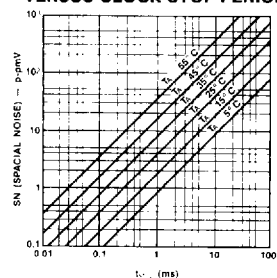

Fig. 5
12. Spatial Noise is the peak-to-peak spacial variation (fixed pattern noise) in the device output after clocks have been stopped. It is usually caused by the variation of leakage current density in the shift registers. Spacial noise is a function of the clock stop period and temperature. See Figure 5.